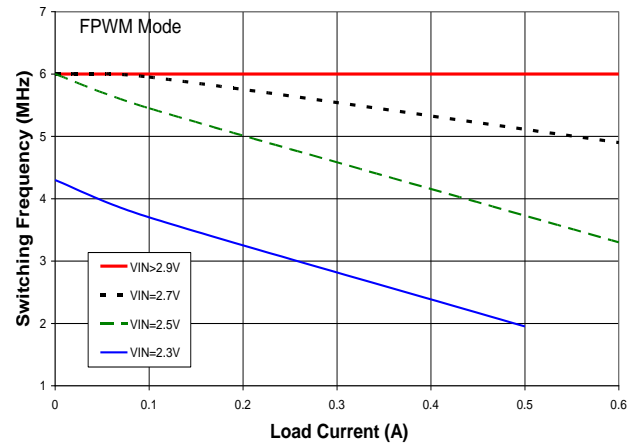
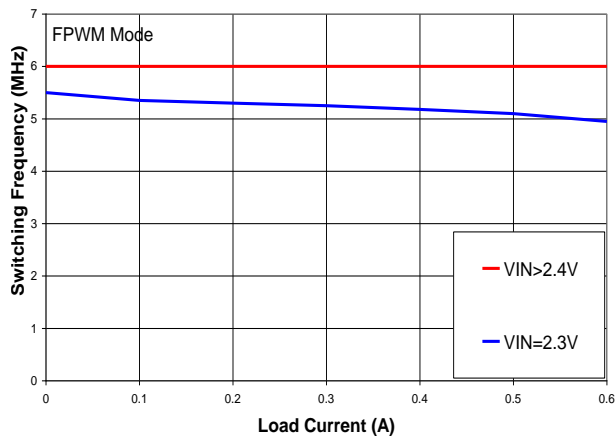

Figure 14. Effect of  $t_{OFF(MIN)}$  on Reducing Switching Frequency
Figure 15. 1.233  $V_{OUT}$  Effect of  $t_{OFF(MIN)}$  on Reducing Switching Frequency
- Limited by the effect of  $t_{OFF}$  minimum (see Figure 14 and Figure 15 in Typical Performance Characteristics).
The switching frequency drops when the regulator cannot provide sufficient duty cycle at 6MHz to maintain regulation. This occurs when  $V_{OUT}$  is greater than or equal to 1.82 V and  $V_{IN}$  is below 2.9 V at high load currents (see Figure 15).